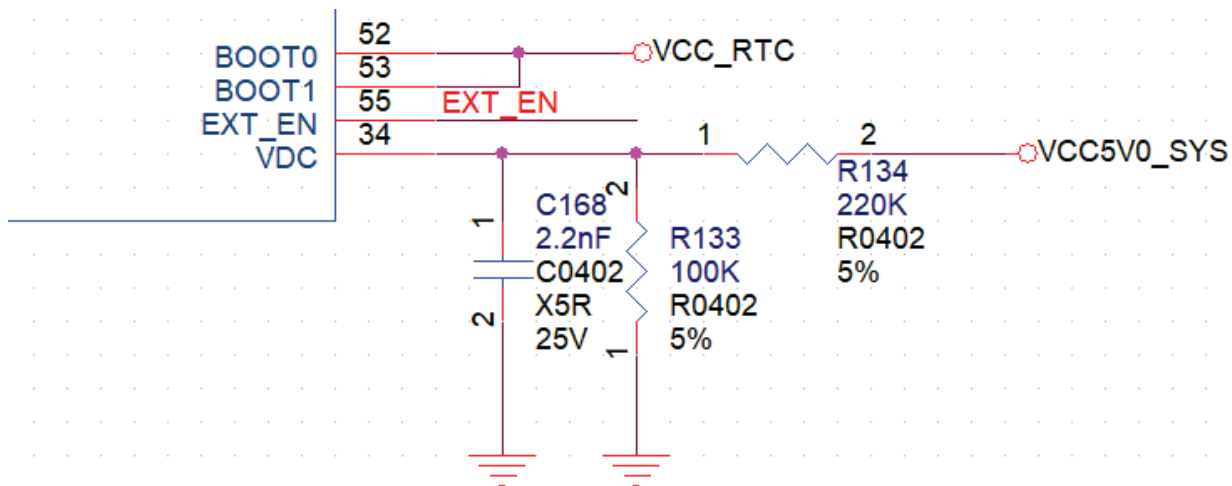

Figure 3-29 VDC Application Circuit 1
- In the product need to be automatically boot when plug in the DC power supply. and the power-on/off is through the power switch or plug off the DC power to achieve, it can be consider the direct use of resistor divider, Shown as Figure 3-29.